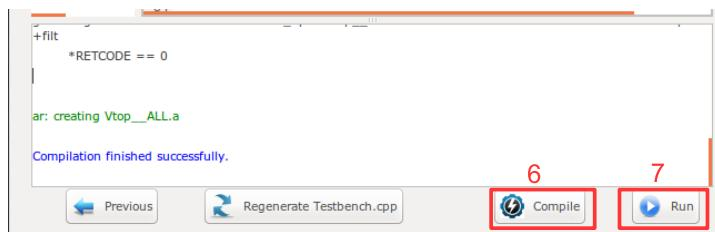

Figure 5.22: Verilator compilation successful snapshot.
- Press Compile button to generate the executable binary file. If the file is generated successfully you must see the "compilation finished successfully" message as shown in Figure 5.22.